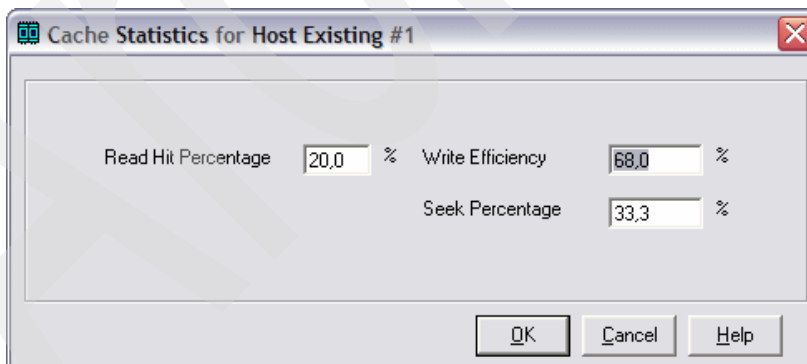

Figure 4-111 Cache values in Disk Magic
- g. The Cache Statistics for Host Existing #1 window (Figure 4-111) opens. Notice that the cache statistics are already specified in the Disk Magic model. For more conservative sizing, you might want to change them to lower values, such as 20% read cache and 30% write cache. Then, click **OK**.